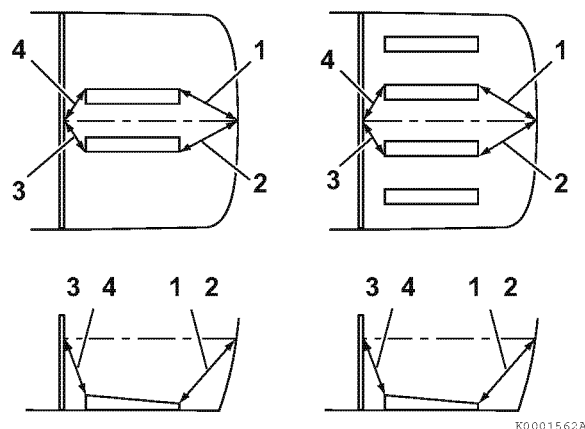

Figure 5-10
4. Measure the distance between the center stringers to the aft center on both the port and starboard (1 and 2, Figure 5-10) sides.
5. Measure the distance between the center stringers to the forward center on both the port and starboard (3 and 4, Figure 5-10) sides.